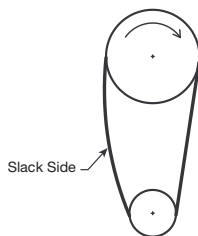

Figure 8
- Models 16FT16, 5DVL6, 5DVL7, 5DVL8, 5DVL9, 5DVN0: Belts should be tensioned just enough to prevent slippage at full load. Belts should have a slight bow on the slack side while running at full load. See Figure 8.